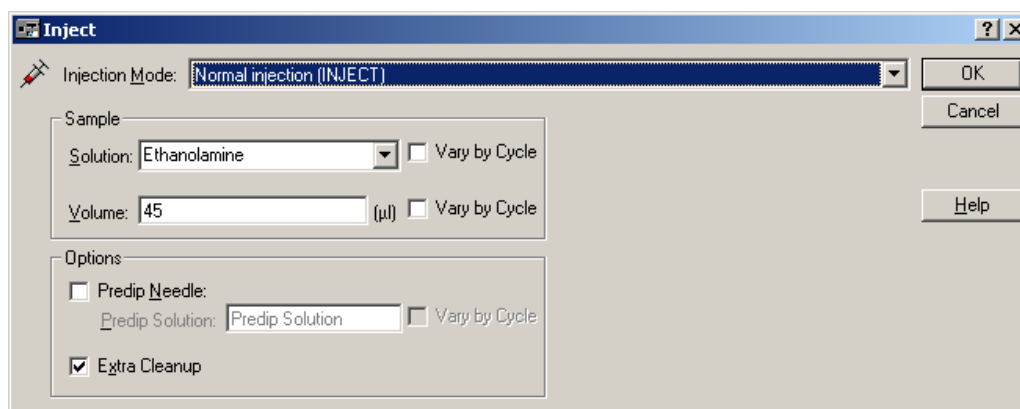

Figure 4.7
- 4.4.5.2 Inject window (Fig. 4.7) will open.
- 4.4.5.3 Type in the information as shown in the Inject window (Fig 4.7).